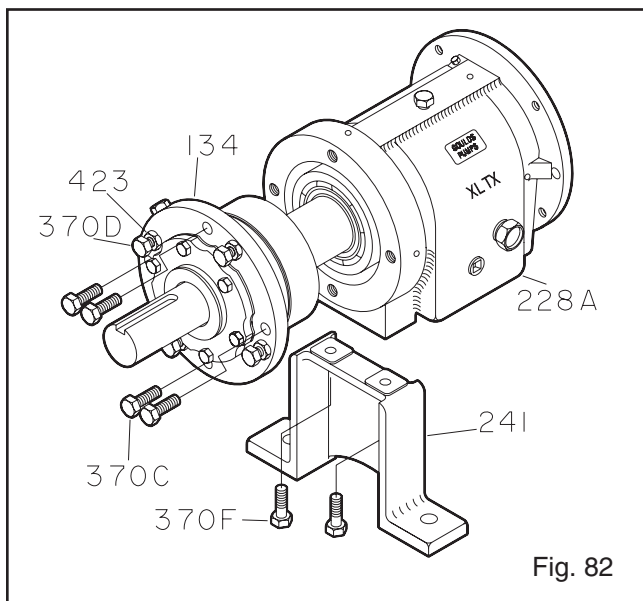

Fig. 82
- Remove bearing frame to frame foot bolts (370F) and frame foot (241) (Fig. 82).